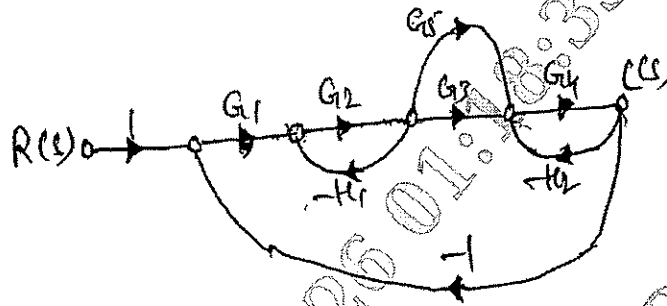

Fig:Q.3(b)
<div style="text-align: center;">  <p style="text-align: center;">Fig.Q.3(a)</p> </div>
b. Find the overall transfer function by using Mason's gain formula for the signal flow graph shown in Fig.Q.3(b). 10 L3 CO2